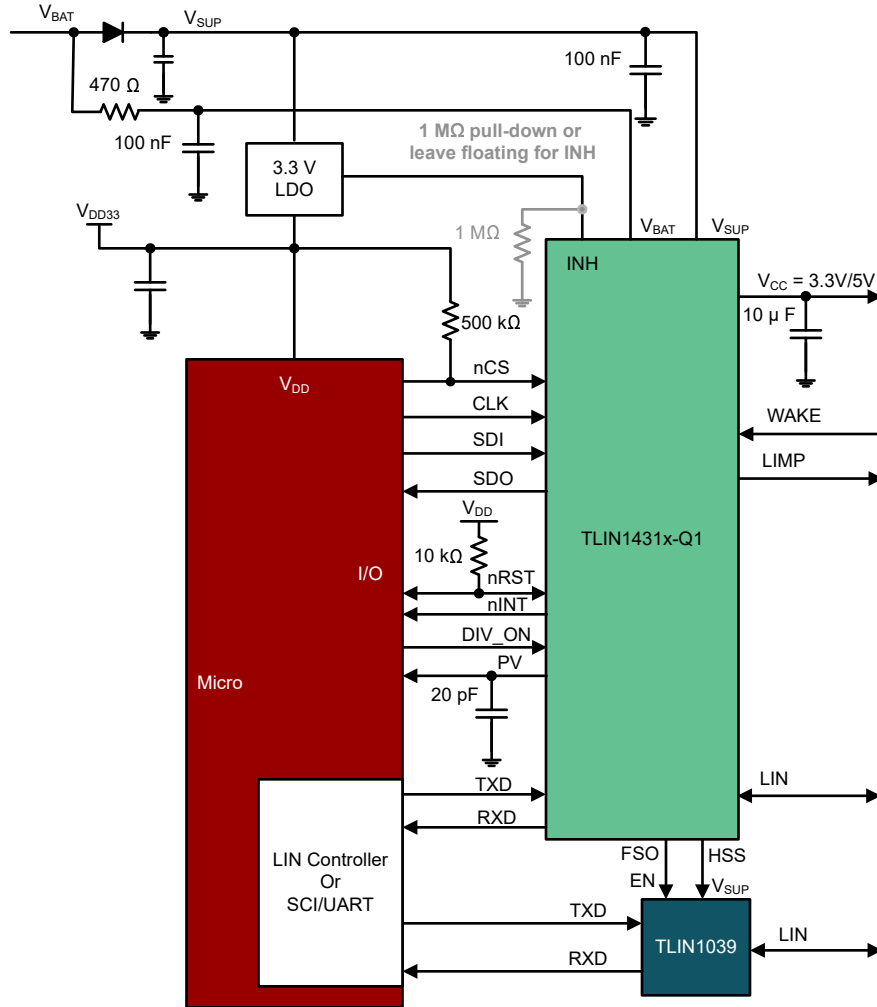

Figure 8-19. Channel Expansion: LIN Transceiver
- Two LIN transceivers by using a simple eight pin LIN transceiver, see Figure 8-19